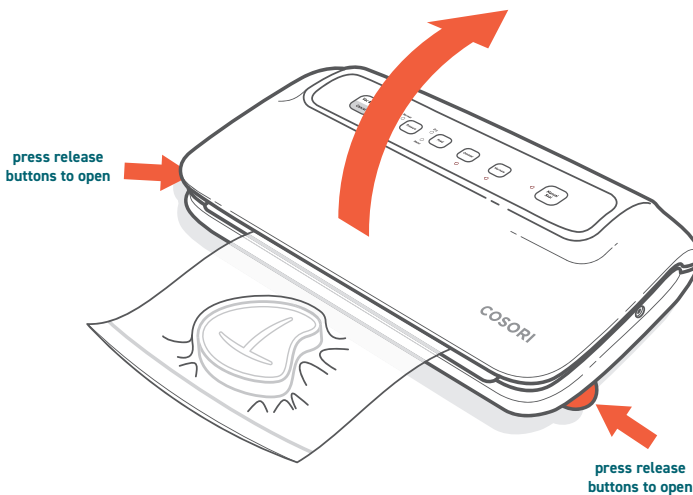

Figure 2.4
8. When the **Vac & Seal** and **Manual Seal** indicator lights turn off, press the release buttons on both sides of the vacuum sealer to unlock the lid. [Figure 2.4] Remove your sealed bag.